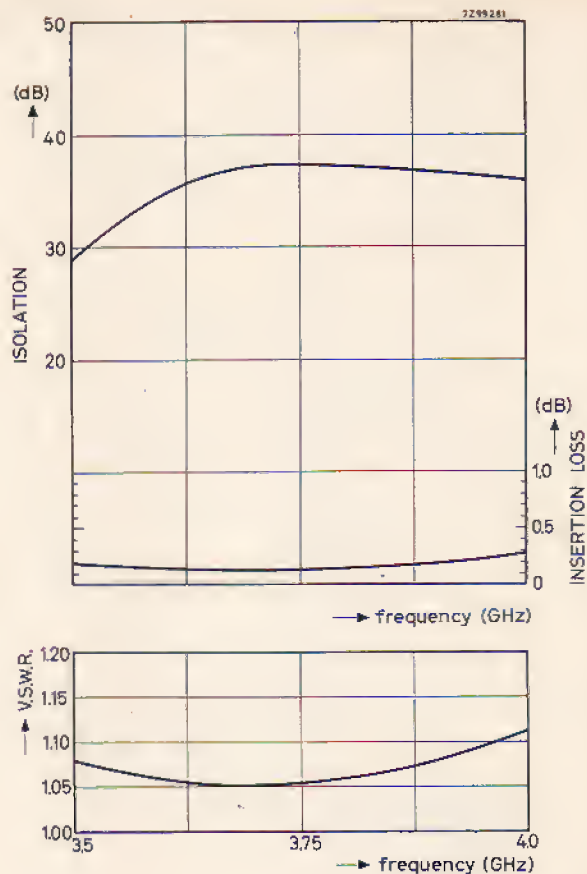

Fig. 2
**ELECTRICAL DATA** (see also Fig. 2)